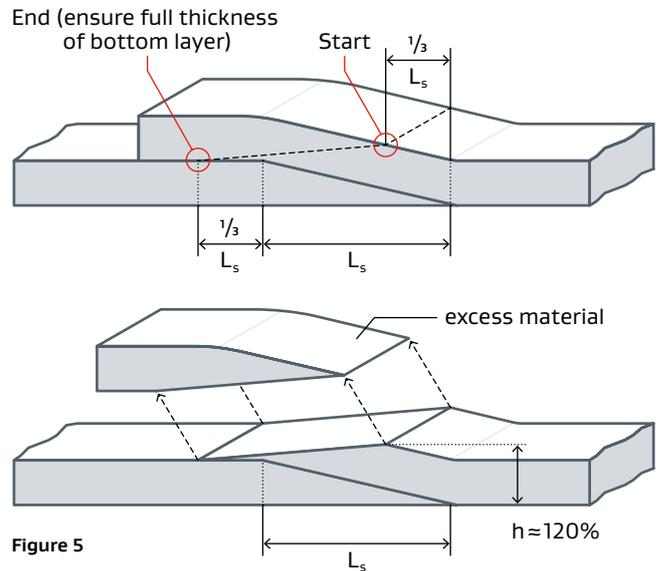

Figure 5
- The start point of the second skive cut is located at the top of the gasket material, at a distance of $1/3 (L_s)$ from the pointed end of the bottom skive cut (see Figure 4). This will make the tallest section of the skive $1/3$ thicker than the base-layer gasket, indicated by (h) in Figure 5.